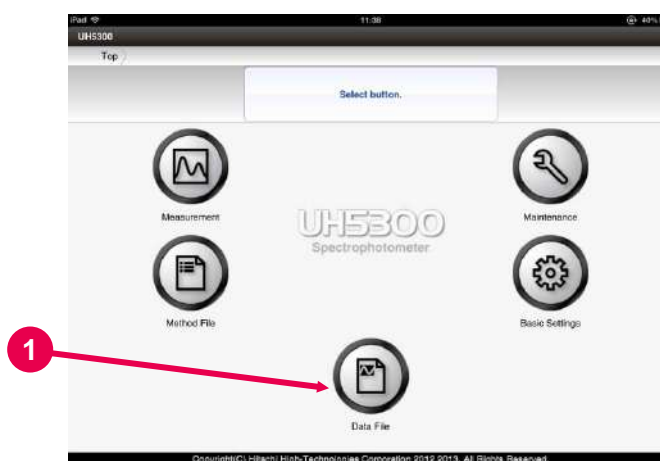
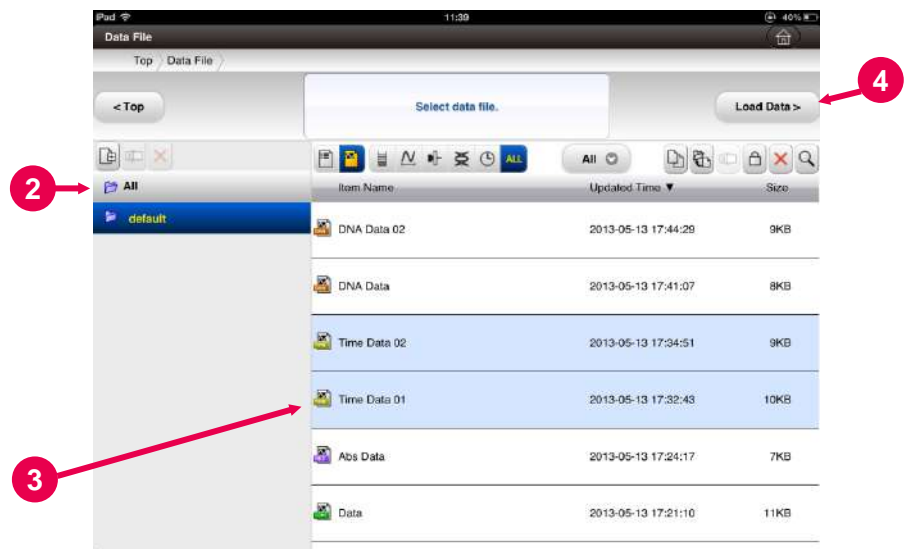

Fig. 5-1 Top Screen
Fig. 5-2 Data File Browse Window
- (1) Tap on the [Data File] button  on the top page (Fig. 5-1). The Data File Browse window (Fig. 5-2) appears.